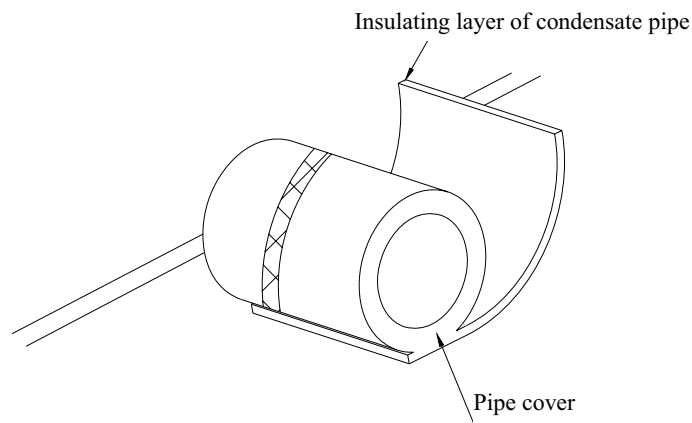

Figure 1-1-10
- ◆ The Drainage Pipeline shall be installed with an inclining angel of $5\sim 10^\circ$, so as to facilitate the drainage of condensate. The joints of the Drainage Pipeline must be covered by thermal insulation materials to avoid generation of exterior condensate. (As shown in Figure 1-1-10)